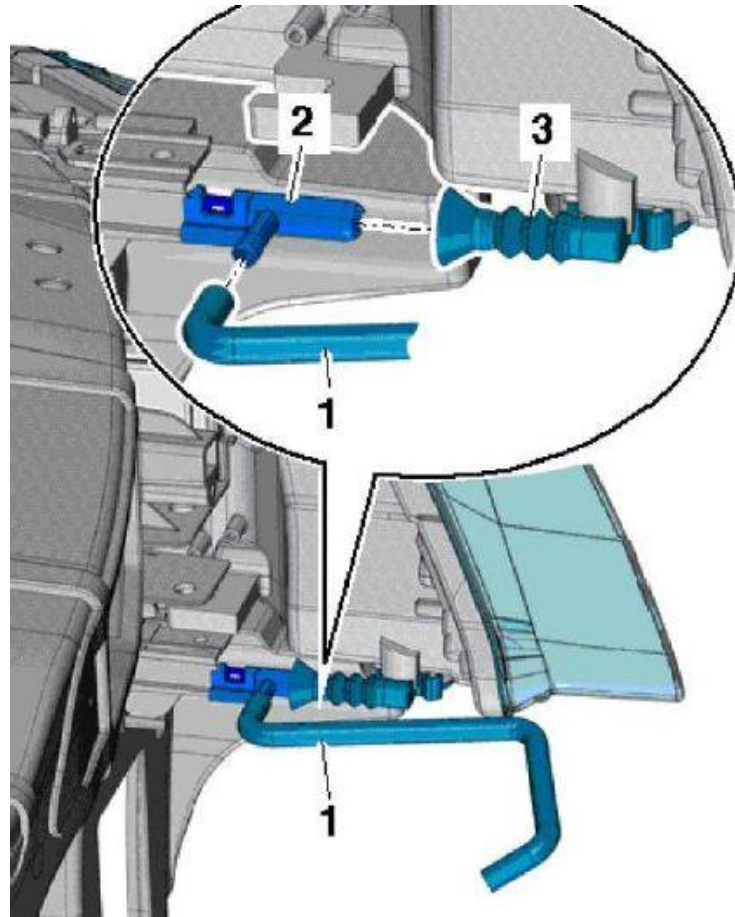

Figure 5. Illustration of the ventilation components.
2. Replace the ventilation hose (Figure 5, 1) on both sides and attach it to the mounting (Figure 5, 2). Use the part numbers indicated in the Parts table below.